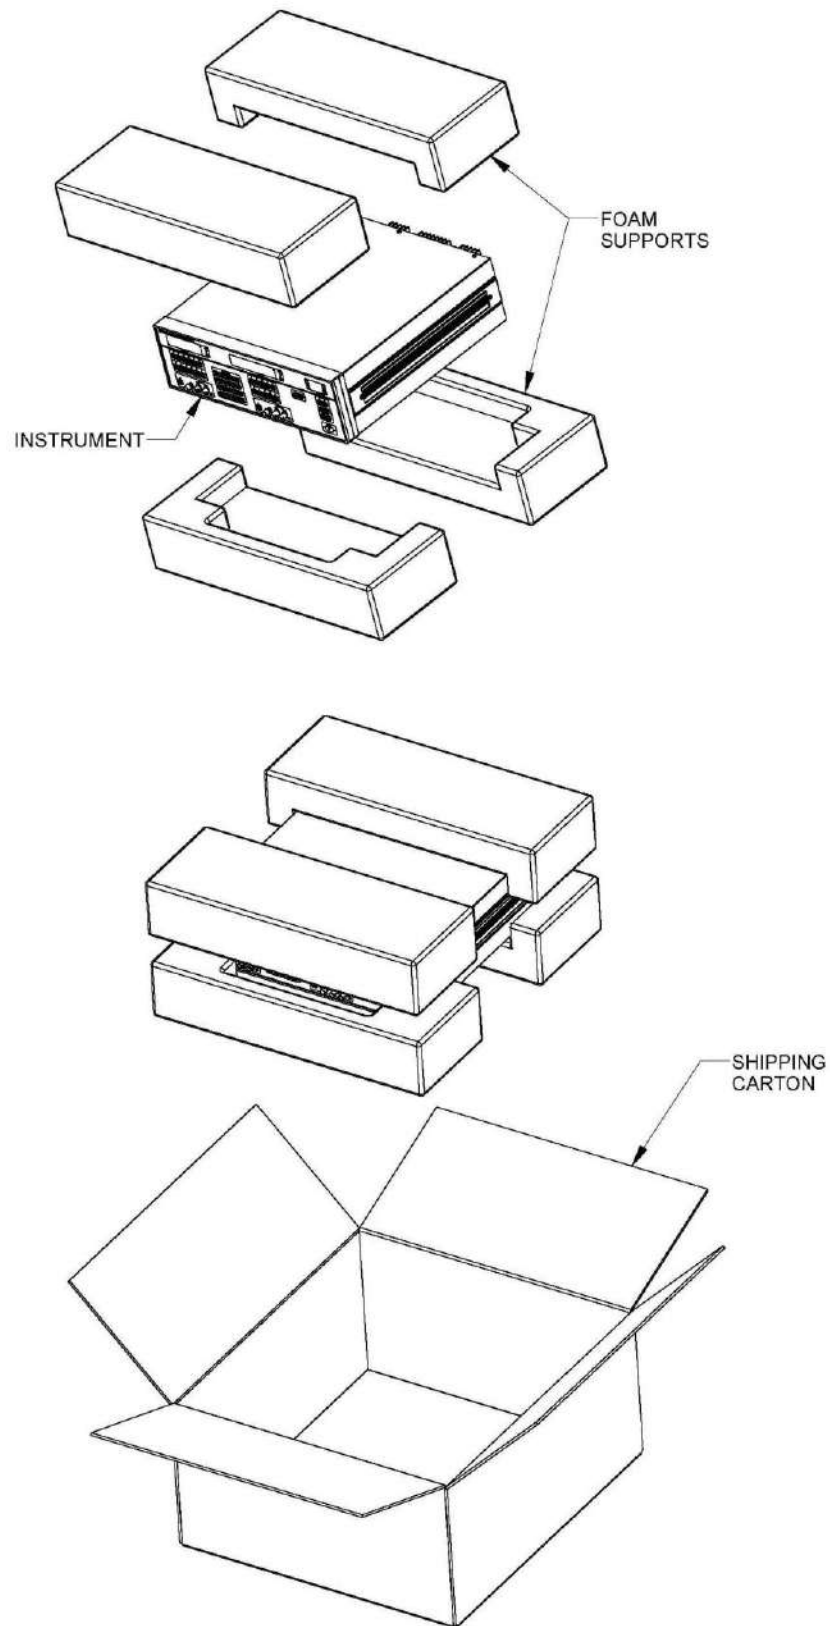

Figure 2-1. Packing and Unpacking Diagram.
**2-4.** The instrument is shipped complete and is ready to use upon receipt. Unpack the instrument from its shipping container and inspect for damage that may have occurred during shipment. Refer to Figure 2-1.